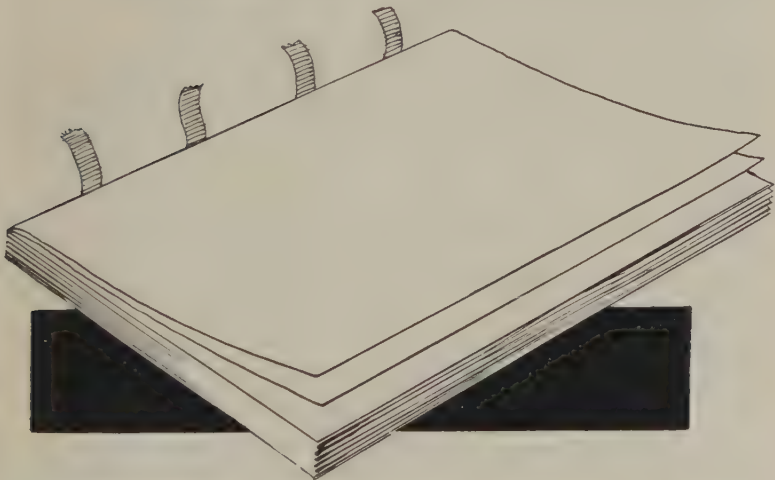

FIG. 276—GLUE END PAPERS SOLID TO STITCHED-ON FLY LEAVES
14. Prepare a pair of cloth-jointed mounted end papers and when dry, *glue solidly* to front and back strong end leaf (Fig. 276), and press until dry.